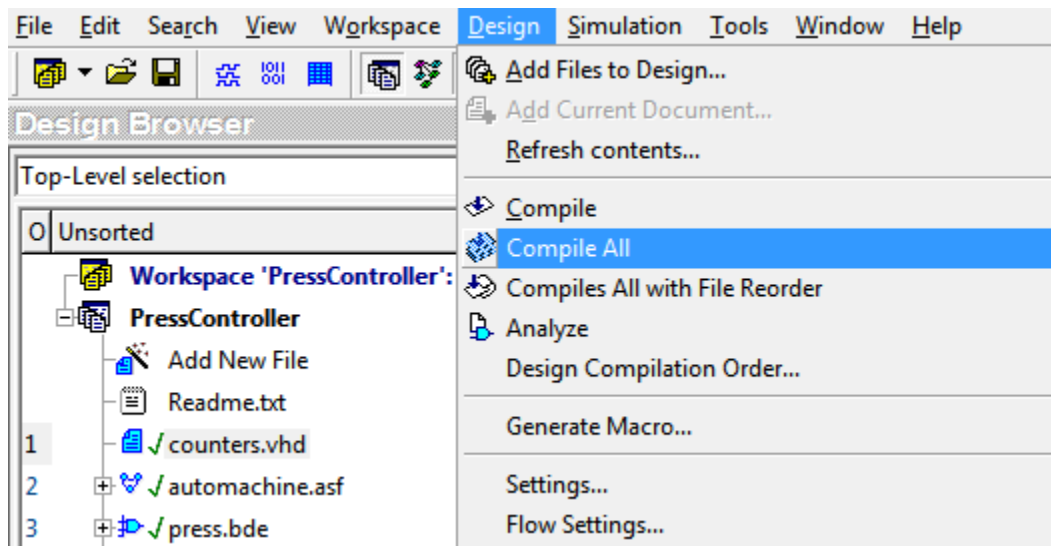

Figure 9 Compiling the Files
- If you choose **Compile All** from the **Design** menu for a given design, all of the files from the design are compiled. Please keep in mind that the user is required to order the file manually in the design browser. If you select **Compile All With File Reorder**, the compiler automatically reorders the source files to ensure proper sequence in which the design units are compiled. (Refer to Figure 9)